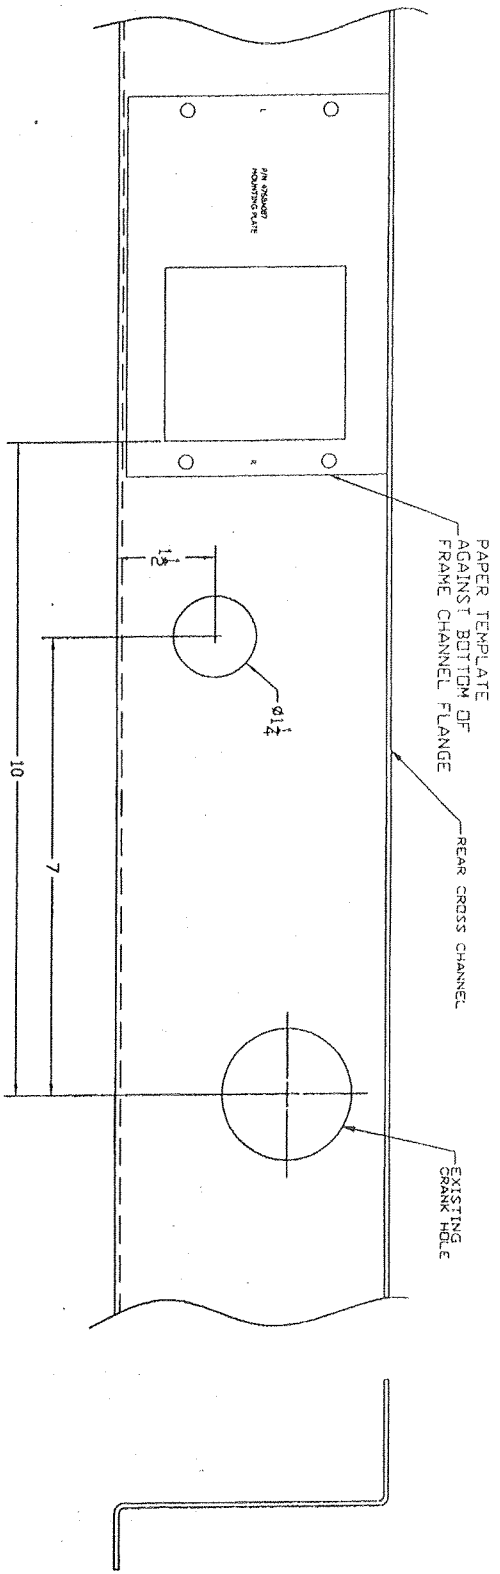

FIGURE 4
1. Cut out and place the paper template in Figure 9 on the outside of the rear cross channel as shown in Figure 4 so that the square hole in the template is located 10" to the left of the existing crank system hole. The template is stamped with a letter "L" for the left side and a letter "R" for the right side to illustrate the correct position. Tape the template to the channel and mark the four corner holes. Drill four 3/16" holes at the marked locations using a regular hand drill. Mark the square cut-out. Using a 3/8" drill bit, drill a hole at each corner of the square cut-out. Cut the square pattern out using a jigsaw with a metal blade.
2. Drill a 1 1/4" hole in the rear cross channel as shown in Figure 4. Insert the 1 1/4" snap bushing (4772-810) into the hole. Route the black wire connector plug from the power head through the snap bushing.